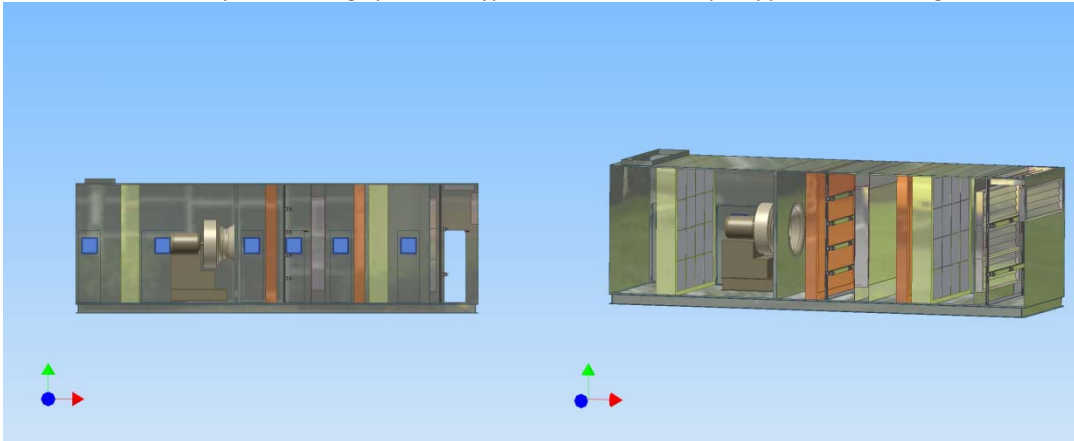

Figure 1. Typical AHU with UVC installation
- Fixtures are to be hard-mounted to racks/supports. American Ultraviolet offers several rack-mount kits to accommodate a variety of mounting options. A typical installation example appears below in Fig. 1 & 2.
- The lamp access door panel is to be interlocked with the power source to turn lamp(s) off when the system is opened. Existing access panels in the AHU are to be used (see figure 1). It should not be necessary to cut additional access doors/panels for UVC fixture installation. It should have signs (provided) in appropriate languages alerting maintenance personnel to the possible hazard of looking at or exposing skin to UVC energy. Service accesses may be equipped with a glass or polycarbonate window for visual inspection of lamps. UVC energy does not penetrate common glass or polycarbonate.